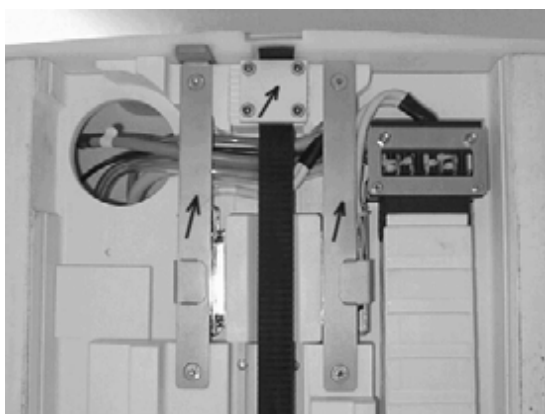

Fig. 34: Stop plate (left) and brace plate (right), Interface plate (above)
- Remove the brace plate and the stop plate (4 x M6 allen screws). \(1/Fig. 34 / p. 40\)
- Remove the brace plate and the stop plate (4 x M6 allen screws). \(Fig. 34 / p. 40\)
- Remove the brace plate and the stop plate (4 pcs. M6 x 16). (Fig. 34 / p. 40).